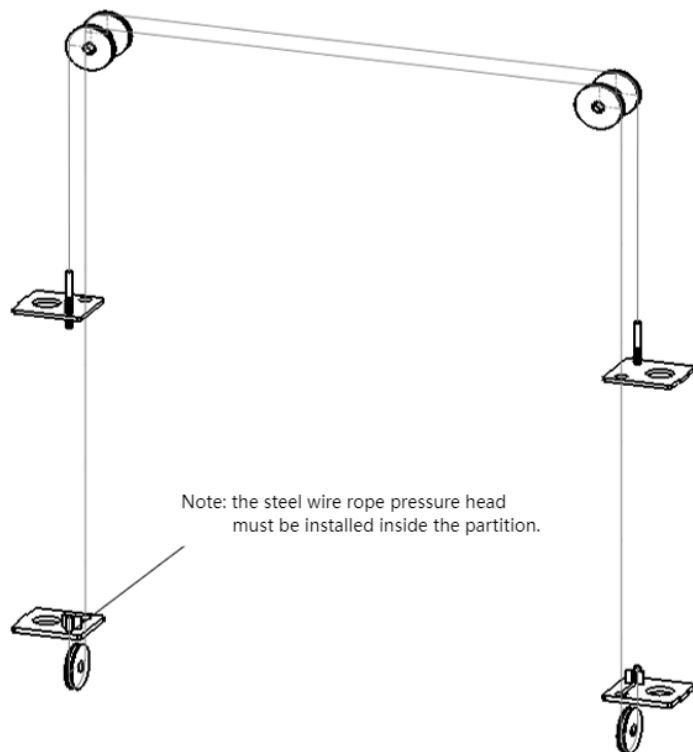

Figure 7 Wire rope pulley set
7.9 Install the balance wire rope to ensure both side pulleys are engaged in the first safety gear. Position the balance wire rope along the trajectory shown in Figure 7.